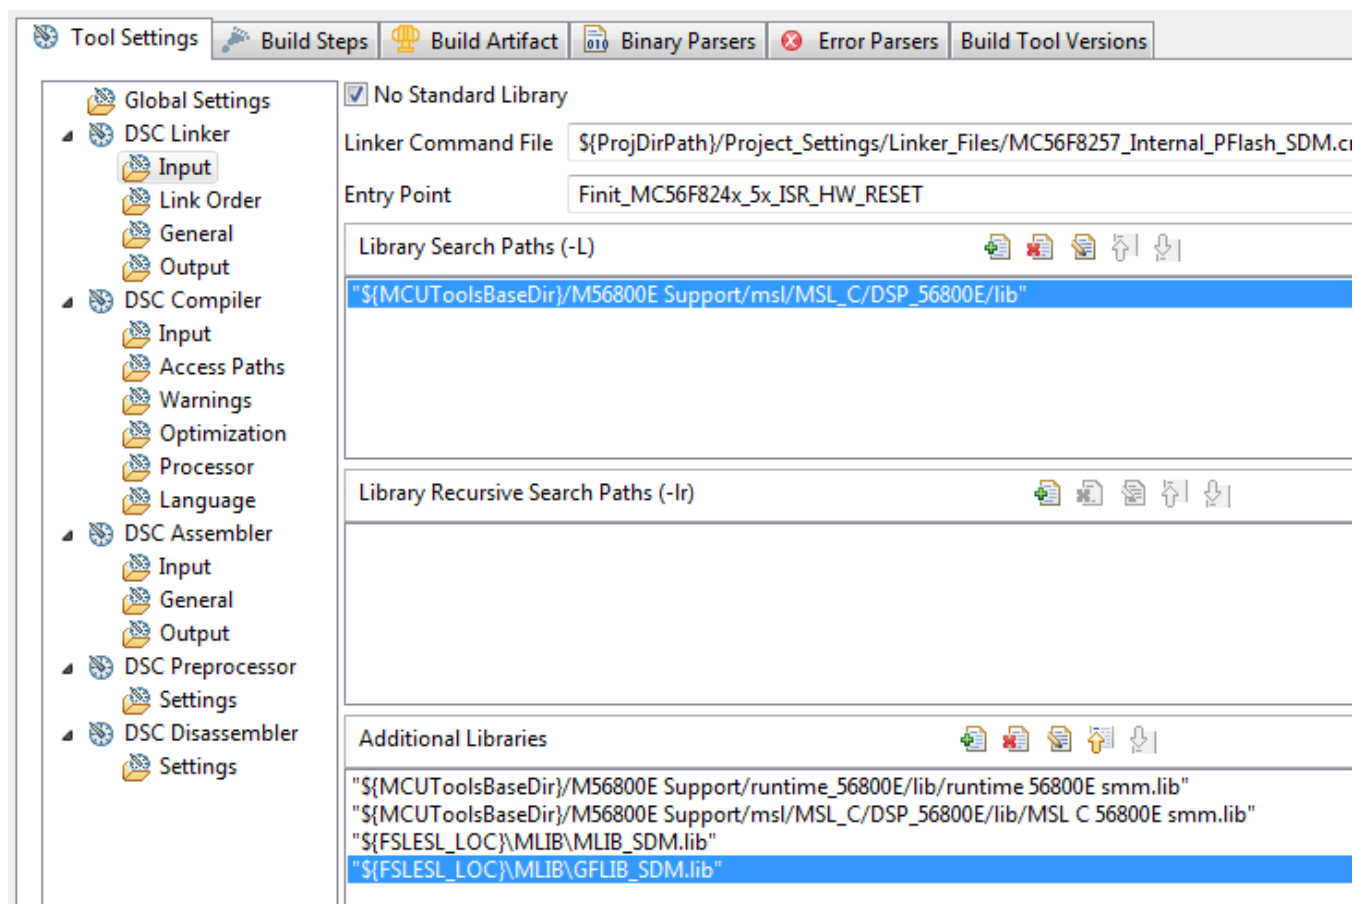

Figure 1-11. Linker setting
3. In the right-hand tree, expand the DSC Linker node, and click Input. See Figure 1-11.
10. Now, you will see the libraries added in the box. See Figure 1-11.